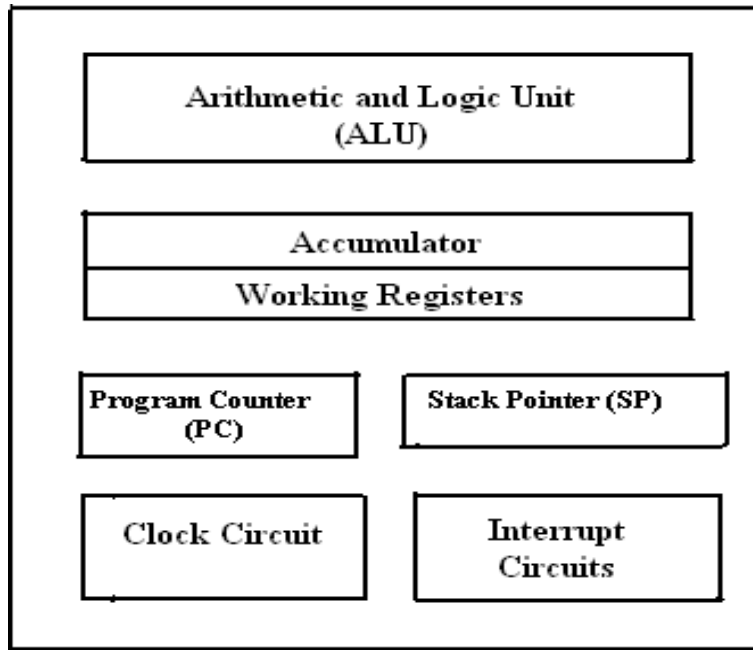

Fig.1:BlockdiagramofaMicroprocessor.
- ✓ The microprocessor contains arithmetic logic unit (ALU), Control unit, Instruction register, Program counter (PC), clock circuit (internal or external), reset circuit (internal or external) and registers.
- ✓ The block diagram of the Microprocessor is shown in Fig. 1